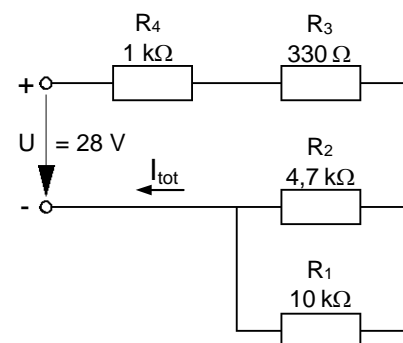

Fig. 3.3.4.1: Resistor network 1
- Assemble the circuit of Fig. 3.3.4.1 on the Electronic Circuits Board. Ensure that it will be possible to open the circuit at the locations required for current measurements (assembly notes will be found in section 3.3.6).